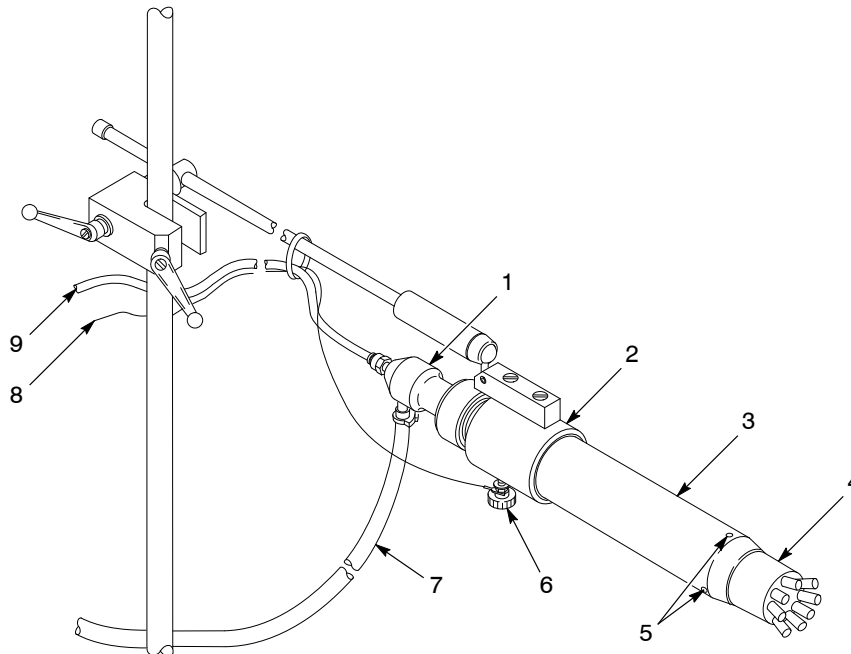

Figure 3-2 Connecting the Feed Hose, Air Tubing, and Ground Wire
1. See Figure 3-2. Install 6-mm blue air tubing (9) between the diffuser (1) and the control unit.
2. Connect the powder feed hose (7) to the barbed diffuser fitting, route the hose to the powder pump, and connect it to the pump outlet connector. Use snap clamps to secure the hose to the diffuser and pump adapters. Wrap spiral-cut tubing around the hose where necessary to prevent it from kinking and cutting off the flow of powder.
3. Attach the ground wire (8) to the ground stud (6). Tighten the knurled knob to secure the wire.
2. See Figure 3-2. Install the sprayhead (4) on the end of the charge module (3) with a slight twisting motion. Tighten the three set screws (5) to secure the sprayhead onto the spray gun.